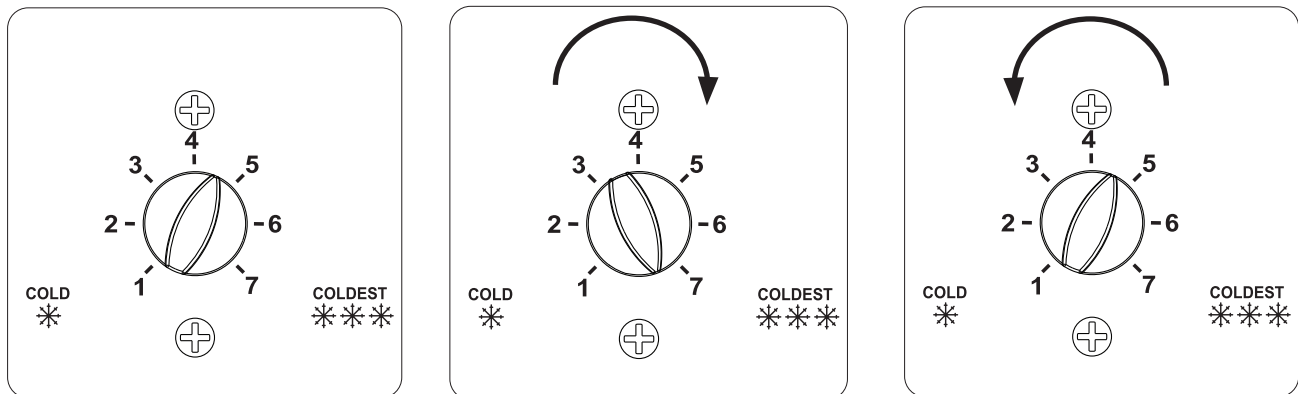

Fig. 2
- 1) Rotate TD all the way to the right. Wait 1 to 5 sec. then rotate back to original setting. Defrost initiated. See Fig. 2.